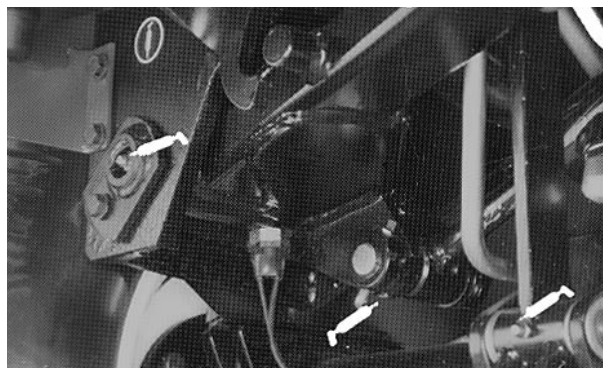
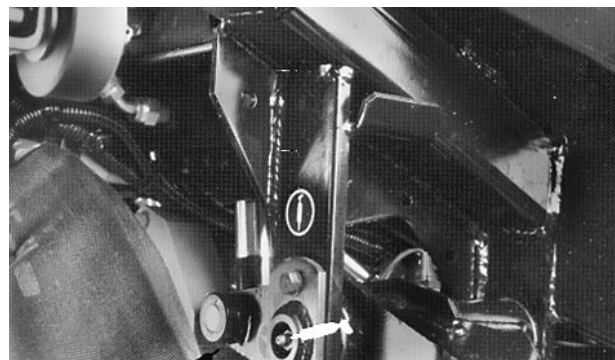
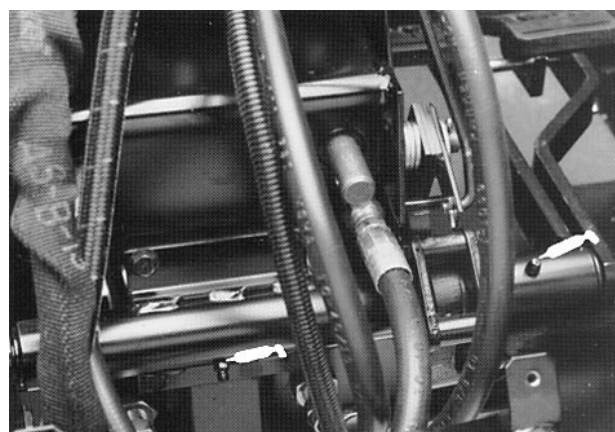

Figure 18
Figure 19
Figure 20
Two- and Four-wheel drive the machines— #1 Lift arm pivot (1), #1 lift cylinder (1), brake arm pivots (2) (Fig. 18); #2 & 3 lift arm pivots (2), #2 & #3 lift cylinders (2), brake pivot (1) (Fig. 19); brake pivots (2) (Fig. 20); traction pedal pivot (1) (Fig. 21); reel speed shaft (1) (Fig. 22); traction adjuster (1) (Fig. 23) and the transmission shift linkage (1) (Fig. 28)